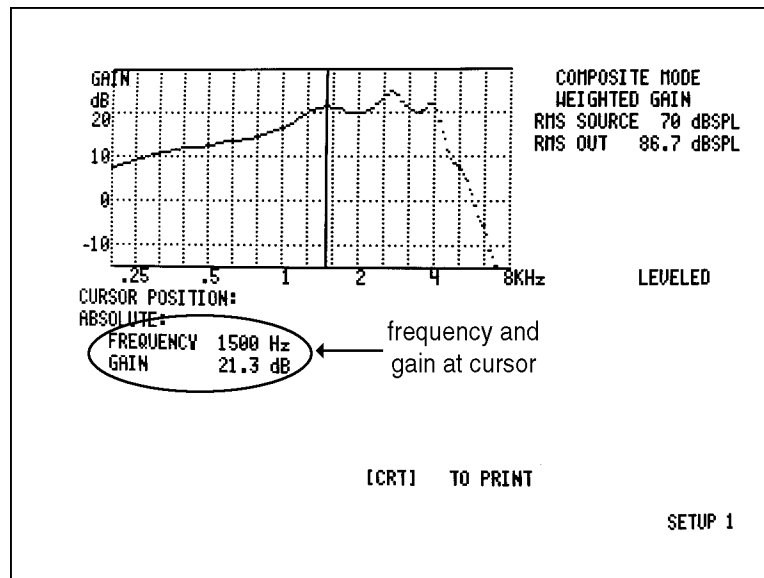

Figure 3.5.6—Example of cursor function
Use the cursor as an aid to making readings of frequency and amplitude or gain at specific positions on a curve. For example, use the cursor to get the frequency and amplitude of the tip of a peak (Figure 3.5.6). Readings can be either in absolute terms, or else relative to a selected reference position. (See Section 3.5.7.)
2. Press [RELATIVE]. You will see the word RELATIVE on the right side of the display, followed in parentheses by the absolute frequency and amplitude or gain values of the curve at the reference position. (See Figure 3.5.6.)